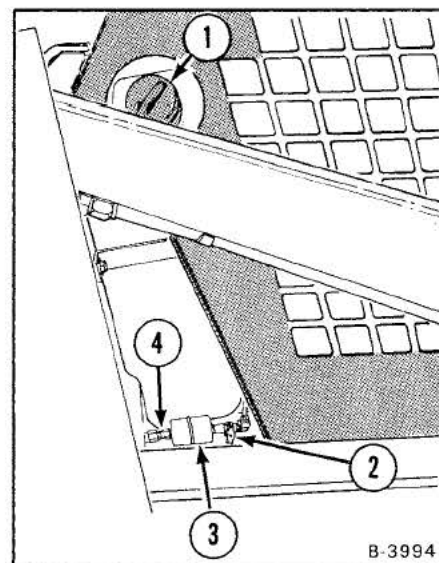

Fig. 45 Fuel Filling Location
Remove the filler cap to service the fuel tank as follows (Fig. 45, Item 1):
5. Tighten the cap on the fuel tank (Fig. 45, Item 1).
1. Close the valve on the fuel line (Fig. 45, Item 2).
2. Loosen the nut and remove the tubeline (Fig. 45, Item 4).